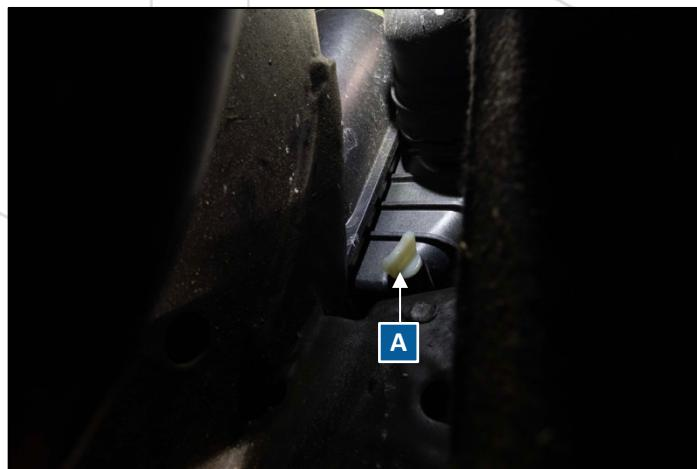

Figure 2: Passenger Side Petcock
2. Drain coolant from passenger side petcock (labeled as A Figure 2).